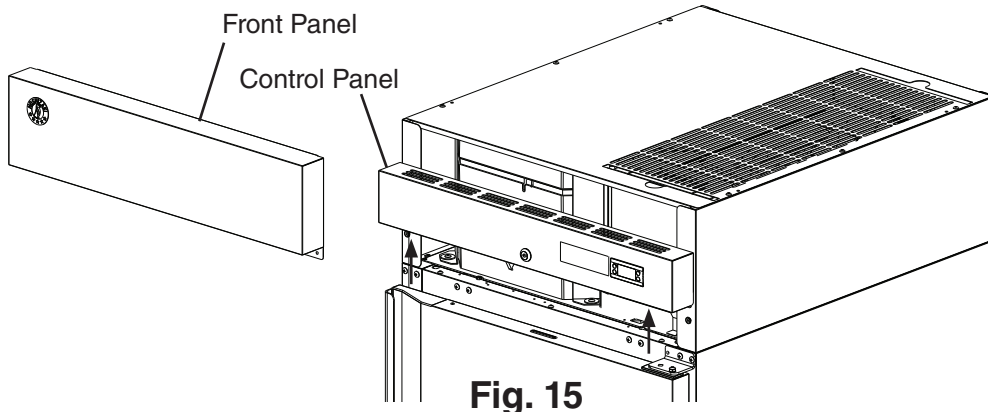

Fig. 15
- 2) Remove the front panel, then being careful not to pull the wires on the control module and door switch(es), remove the control panel. Secure the control panel so that it does not interfere with the hinge bracket and will not fall. See Fig. 15.